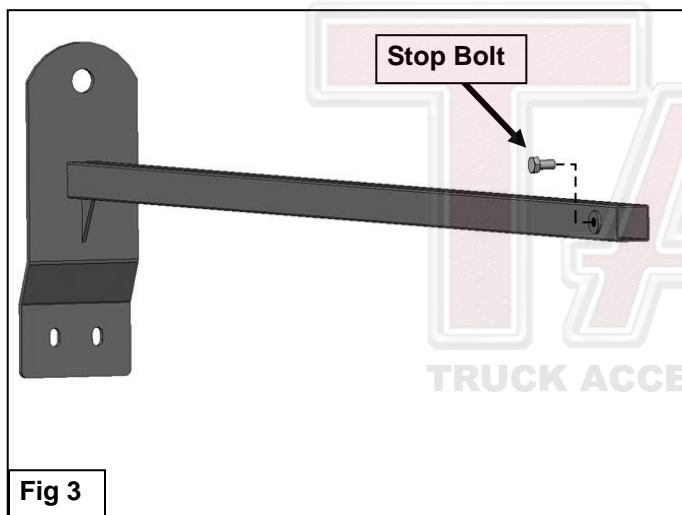

Fig 3
- Repeat **Step 2** to assemble all (3) remaining Cross Bar inner and outer assemblies.
- Select (1) inner and (1) outer Cross Bar assembly. Slide (1) Inner Cross Bar into (1) Outer Cross Bar, **(Figure 2)**. Lock in place with (1) 10mm Hex Bolt, **(Figure 3)**. Do not tighten locking bolt at this time.